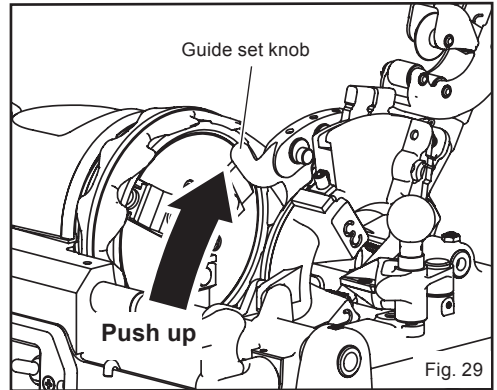

Fig. 29
(1) Push the guide set knob forward and align the die head with its proper position. Check to make sure that the unit is set to the desired size (Fig. 29).